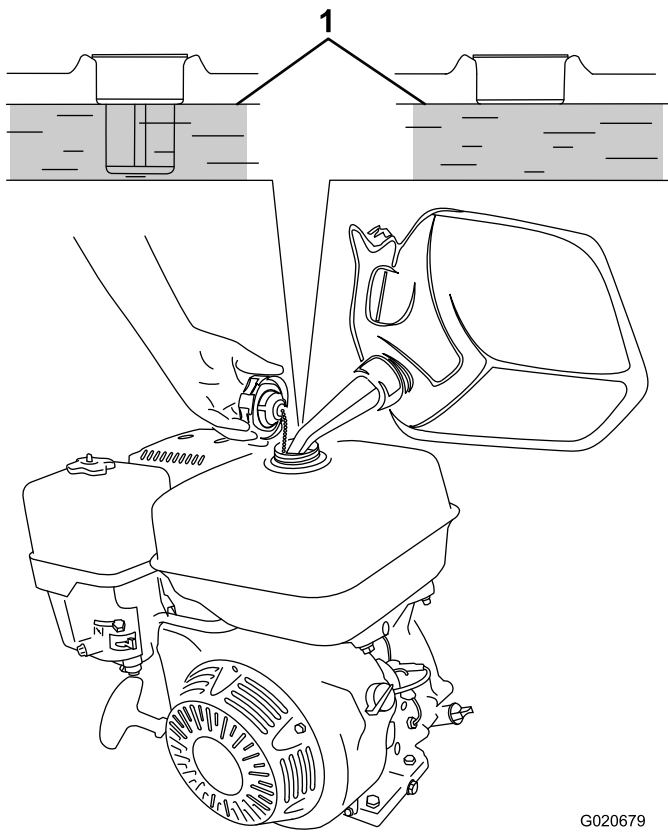

Figure 23
3. Add fuel to the fuel tank until the level is at the maximum fuel level (Figure 23).